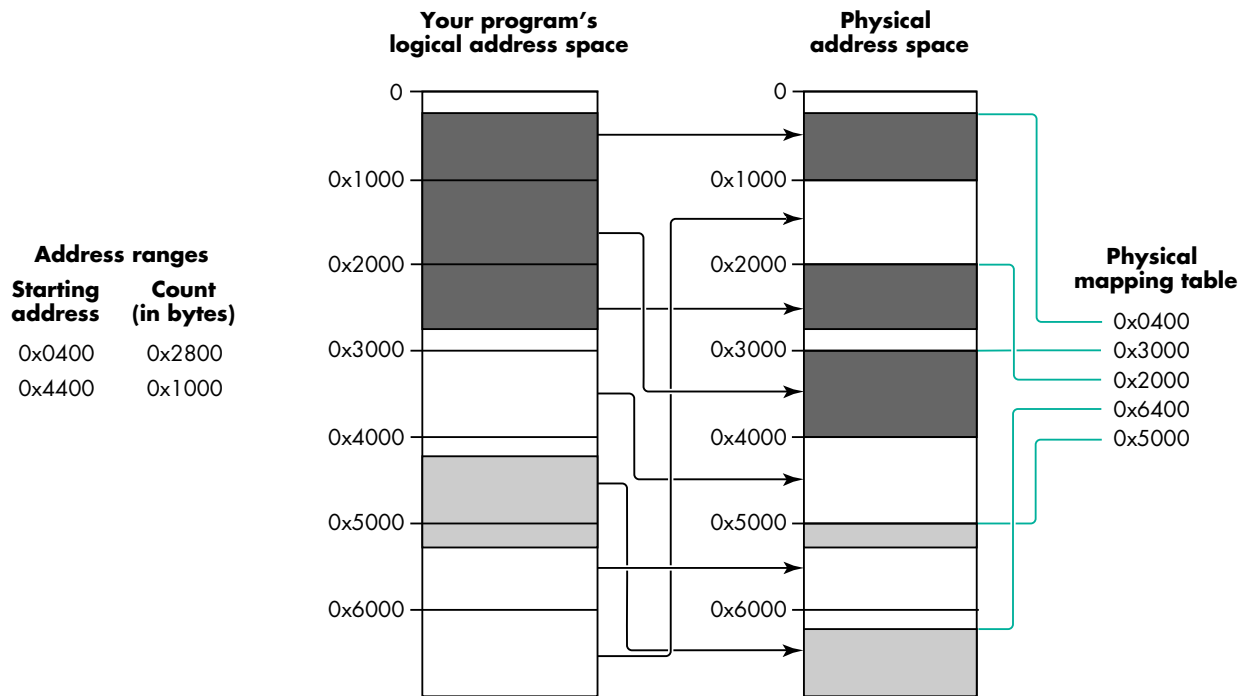

Figure 1
Address ranges to be prepared by PrepareMemoryForIO may cross a page boundary or boundaries and thus may take up two or more pages in physical memory. Figure 1
- Every address range produces a beginning page. Your data may start at an offset into this page, depending on the starting address of the range. This is true for both the address ranges in Figure 1. The address in the mapping table for the beginning page points to the beginning of your data in the page. Notice that for the second address range in our example, the logical address for the start of the data, 0x4400, maps to the physical address 0x6400.
- If your address range maps to three or more pages, some number of middle pages are completely filled with your data. The first address range in Figure 1 illustrates this.
When called for the example in Figure 1, the DMA support library returns five physical transfer segments (this example doesn't demonstrate logical alignment problems). To learn how the algorithm works, I'd recommend that you work out the actual addresses and segment transfer lengths using pencil and paper. (When you look at the DMA support library in `DMATransfer.c`, you'll see a more mechanized approach that I strongly recommend if you're developing complex software.)